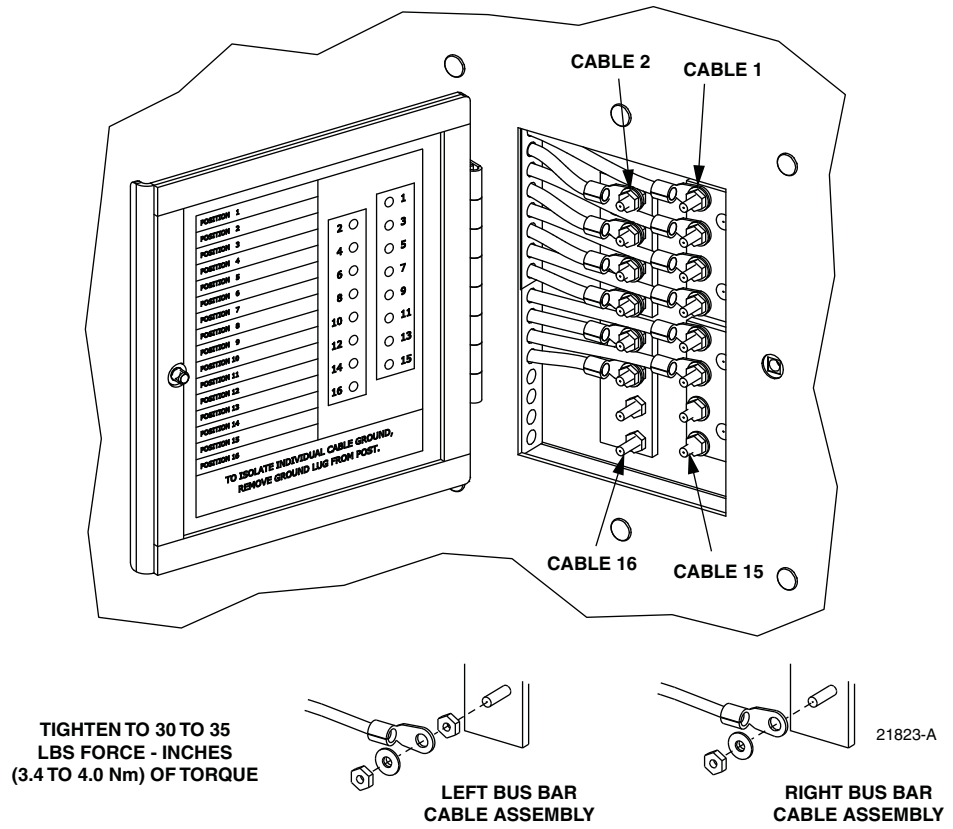

Figure 24. Cable Grounding System - Exterior View
21. Open the grounding system access cover located on the rear side of the cabinet as shown in Figure 24.